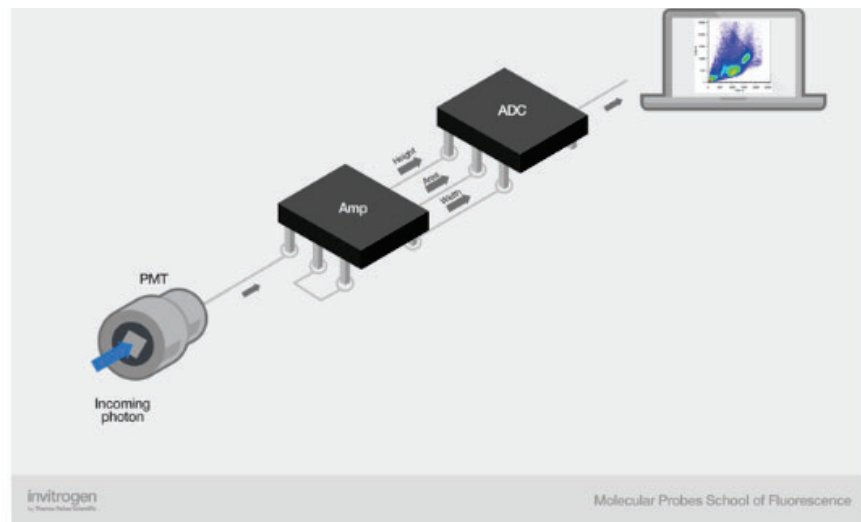

Figure 1. Path of the photons in the electronics system.
The photons that are emitted when the laser hits the cell as it passes through the interrogation point are detected by the photomultiplier (PMD) or photodiode (PD). These photons can come from light being scattered by the cell or by fluorescence emission of fluorophores associated with the cell. Once in the detector, the photons are converted to electrons, and the signal is multiplied proportionately. The signal exits the detector as an electric current (also called **photocurrent**), and this is the point where the signal enters the electronics system. A simplification of the path of the photons as they travel through the electronics system can be seen in **Figure 1**. After exiting the detector the electric current travels to the amplifier (amp) where it is amplified and converted to a voltage pulse. This pulse is then converted to a digital number via the analog-to-digital converter (ADC). The digital number is transferred to the computer and becomes the data that you will analyze. Of course this is a dramatic simplification of the process, and there are some key points described in this section that you will need to understand about the data in order to accurately interpret the results of your experiment.